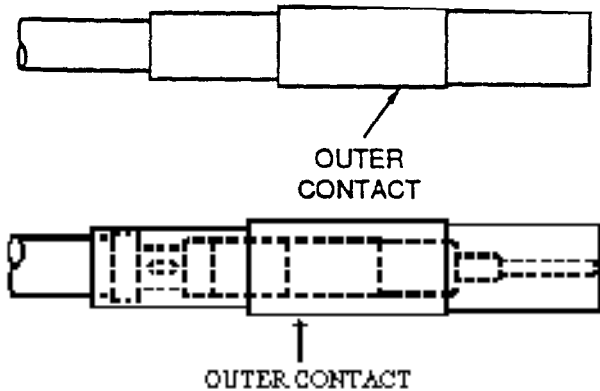

Figure 39. Outer Contact
h. As shown in Figure 39, install center contact and cable assembly into outer contact until it bottoms.
d. Install center contact and cable assembly into outer contact, until it bottoms (Figure 39).
f. Install center contact and cable assembly into outer contact until it bottoms (Figure 39).